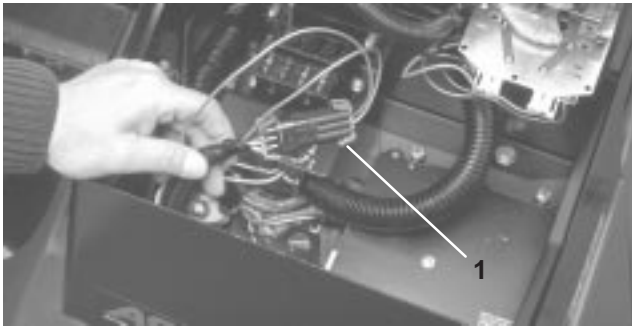

Figure 31
2. Open control panel cover. Locate wire harness and loopback connector. Carefully unplug loopback connector from harness connector (Fig. 31).